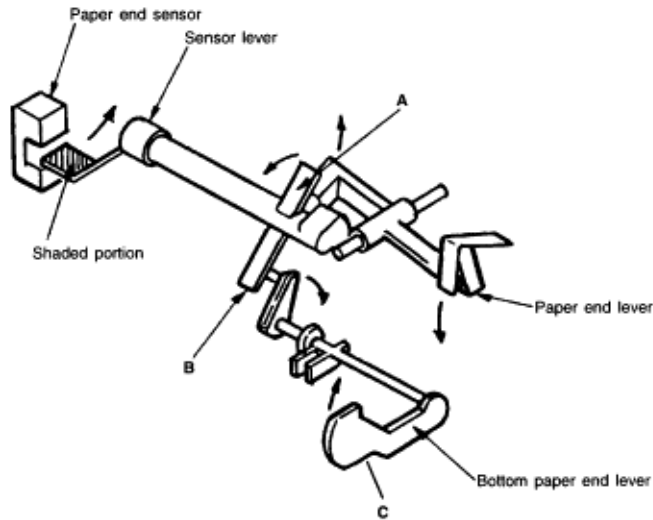

Figure 2-15
2.2.6 Paper Detection Mechanism (See Figure 2-15 below).**(1) Cut sheet detection**